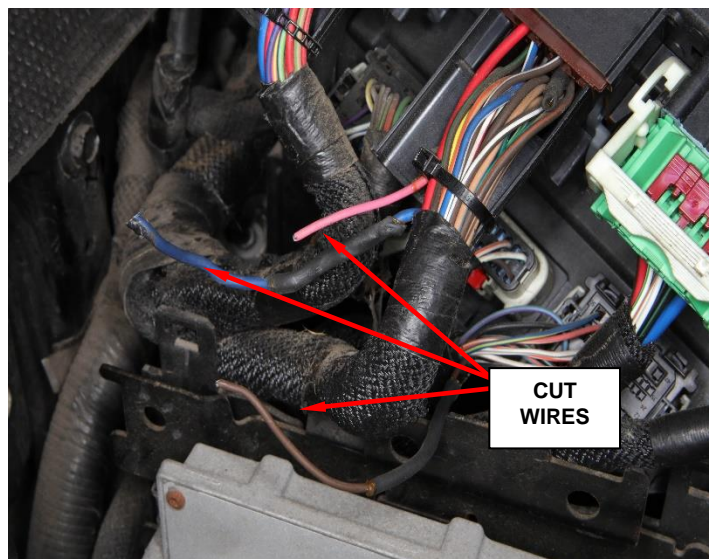

Figure 5 – Fuel Pump Relay Wires
9. Cut the pink, brown and blue wires from the Fuel Pump Relay wire harness assuring to leave sufficient lengths to reconnect all 3 wires and **DISCARD** the relay and wire harness (Figure 5).